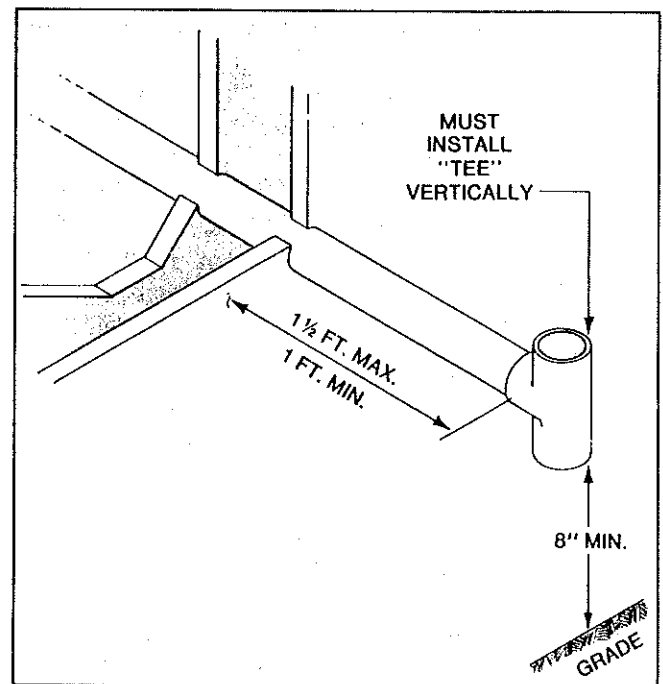

Figure 7
3. The vent pipe must extend at least 1 foot, but no more than 1-1/2 feet past the outside wall and must terminate with a 2 inch diameter schedule 40 or 80 plastic CPVC "tee". See Figure 7.